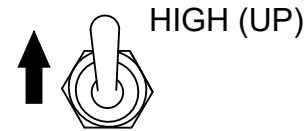

Figure 61. Engine Speed Switch (High Position)
2. Place the **Engine Speed switch** in the **HIGH** position (Figure 61).